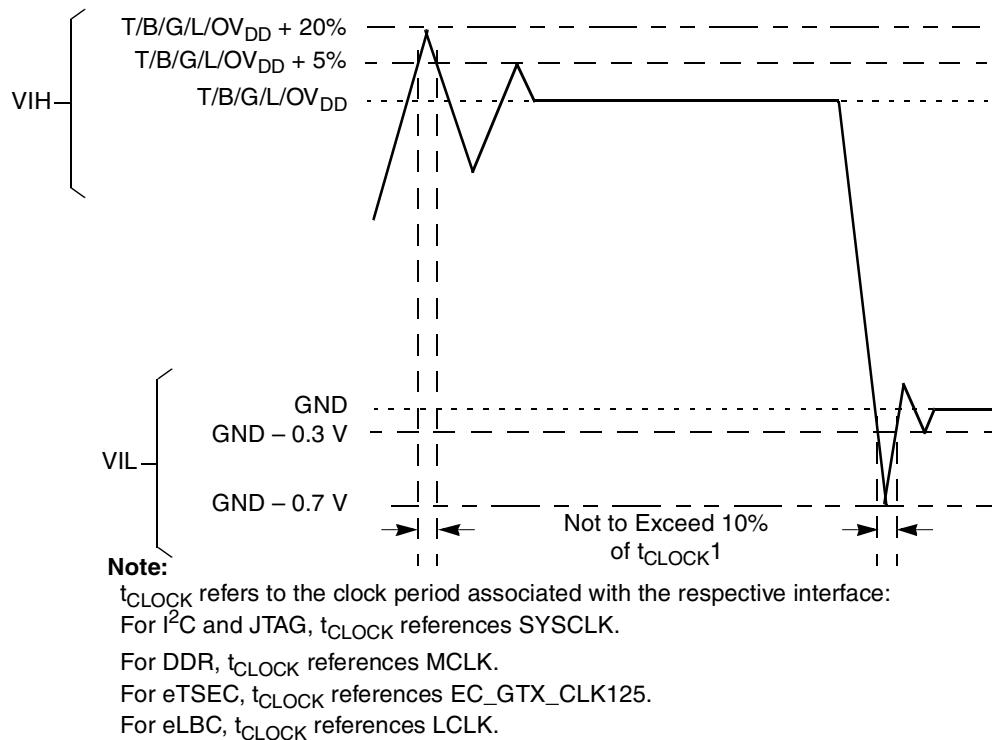

Figure 2. Overshoot/Undershoot Voltage for $TV_{DD}/BV_{DD}/GV_{DD}/LV_{DD}/OV_{DD}$
- (M,L,O)V_{IN} may overshoot/undershoot to a voltage and for a maximum duration as shown in Figure 2.
Figure 2 shows the undershoot and overshoot voltages at the interfaces of the MPC8572E.